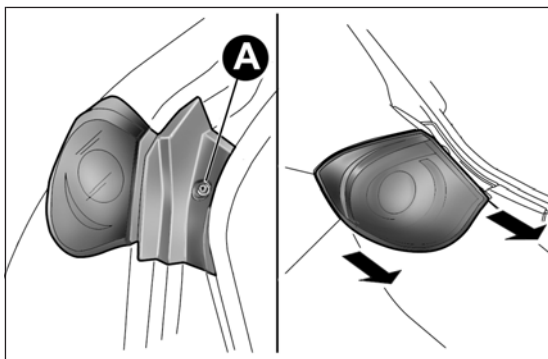

fig. 144
- open the boot and loosen the rear light cluster fastening screw A fig. 144;